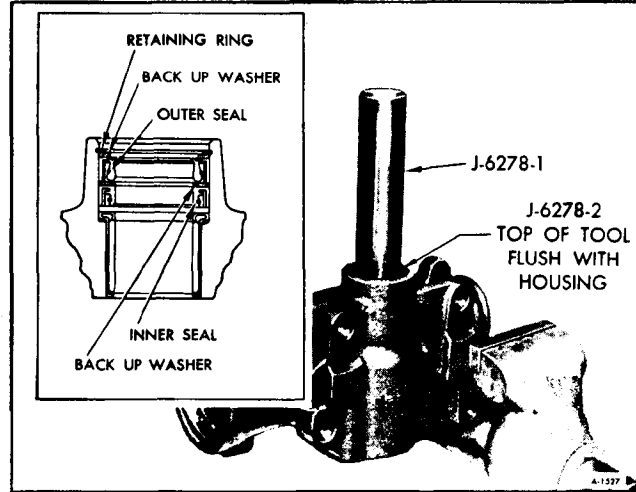

Figure 45-Installing Pitman Shaft Seals
- b. Drive the seals into the housing until the top of Adapter J-6278-2 is flush with the housing (figure 45).
- d. Reinsert Tool J-6278 with Adapter J-6278-2 and continue driving the seals until the retaining ring seats in its groove (Refer to inset, figure 45), then remove the tool and adapter.